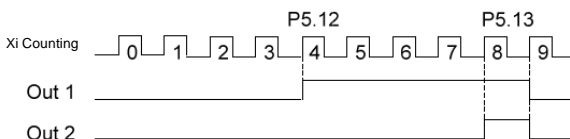

Fig.6-18 Schematic diagram for the preset and reaching counting value reference
2. The terminal Y1 is set to "10: Preset counting value action", and the action sequence is shown as Out1 in Fig.6-18. Effective level will be output when the counting value is between the values of P5.12 and P5.13.
The terminal Y1 is set to “11: Reaching counting value action”, and the action sequence is shown as Out2 in Fig.6-18. Effective level will be output and kept till the counting value changes when the counting value reaches the value of P5.13.